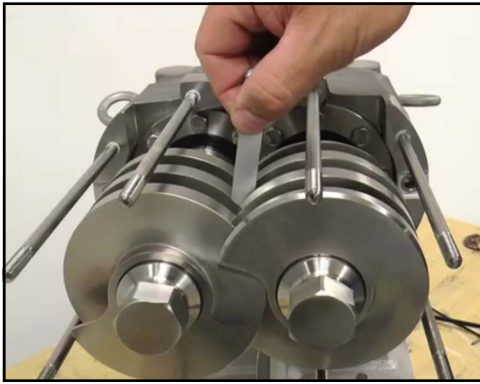

Figure 239 - Confirm the clearance
15. Confirm that the clearance between the screws is even on the front and back edges of the screw flanks. Turn the drive shaft and ensure that there is no contact at any point. If necessary, re-time the screws as shown in Figure 239.